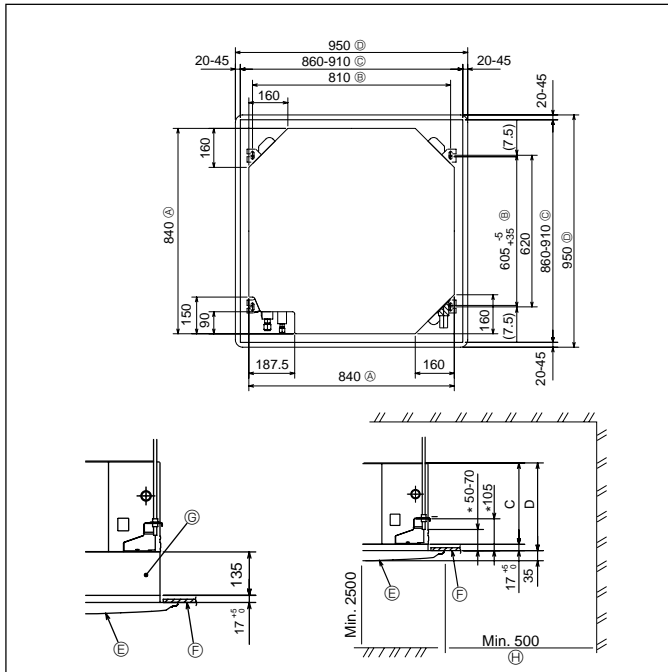

Fig. 2-2
2.2. Ceiling openings and suspension bolt installation locations (Fig. 2-2)
* The dimensions of ceiling opening can be regulated within the range shown in Fig.2-2; so center the main unit against the opening of ceiling, ensuring that the respective opposite sides on all sides of the clearance between them becomes identical.